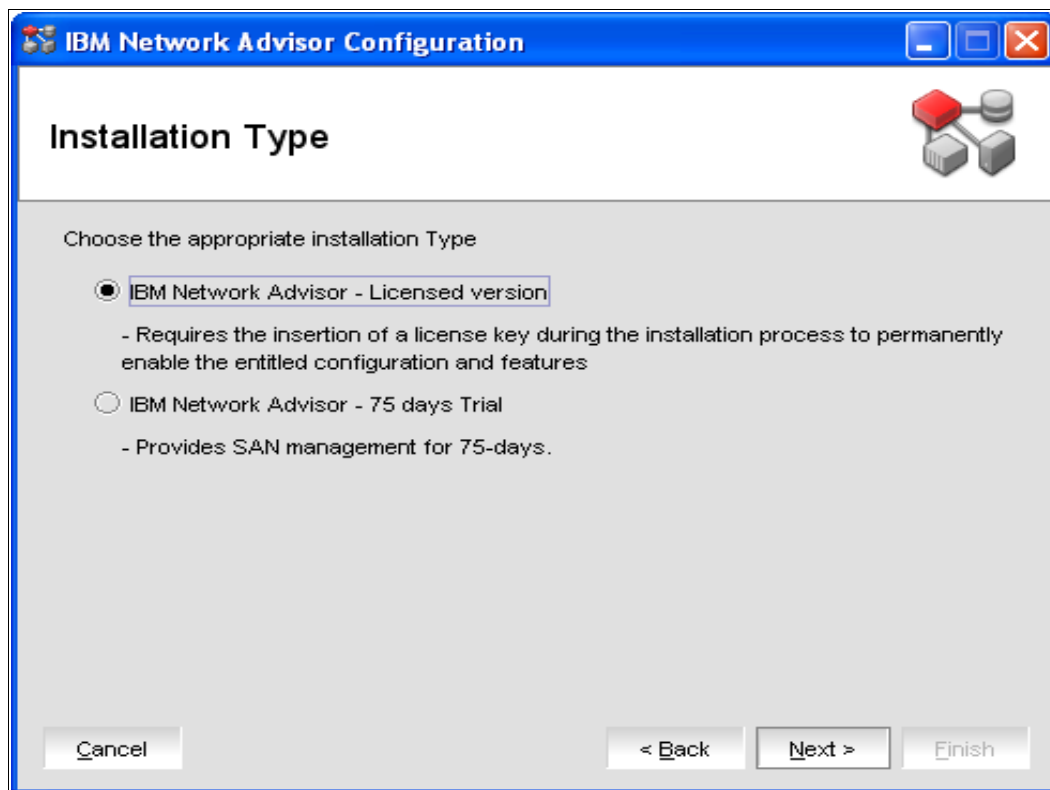

Figure 8-7 Installation type
6. Select IBM Network Advisor - Licensed version, as shown in Figure 8-7, and click **Next**.